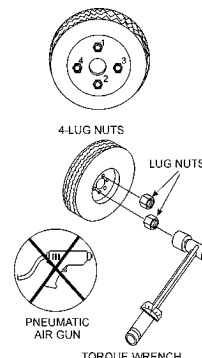

Figure 25. Lug Nut Torque Sequence
- Torque all lug nuts in sequence. See Figure 25. **DO NOT** torque the wheel lug nuts all the way down. Tighten each lug nut in 3 separate passes as defined by Table 5.
- After first road use, retorque all lug nuts in sequence (Figure 25). Check all wheel lug nuts periodically.